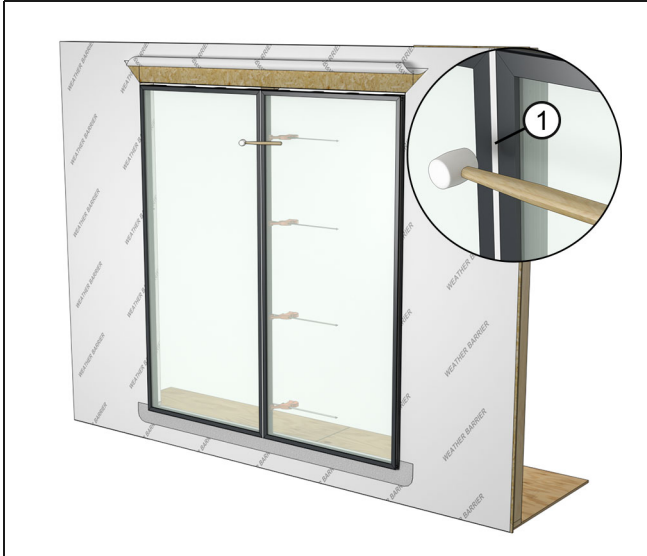

Figure 24
14. Install the exterior mull cap. Seat in place with a rubber mallet. See Figure 24.